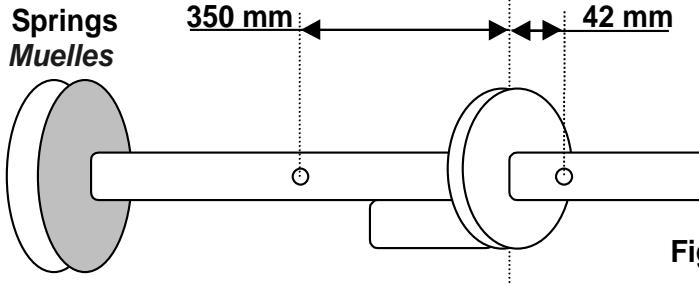

Fig. 1
- Drill into the tube with the spring at 42 mm. on the right from the centre, by a 8,5 mm. drill (fig.1).
- Drill into the tube with the spring at 350mm. on the left from the centre, by a 12,5 mm drill (fig.1).